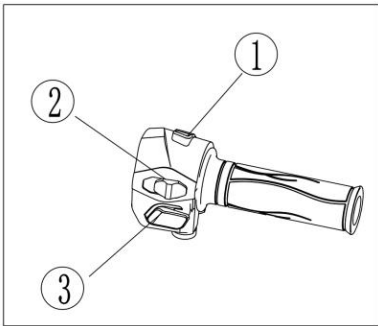

Figure 6
4.4 Right switch combination (Figure 6)